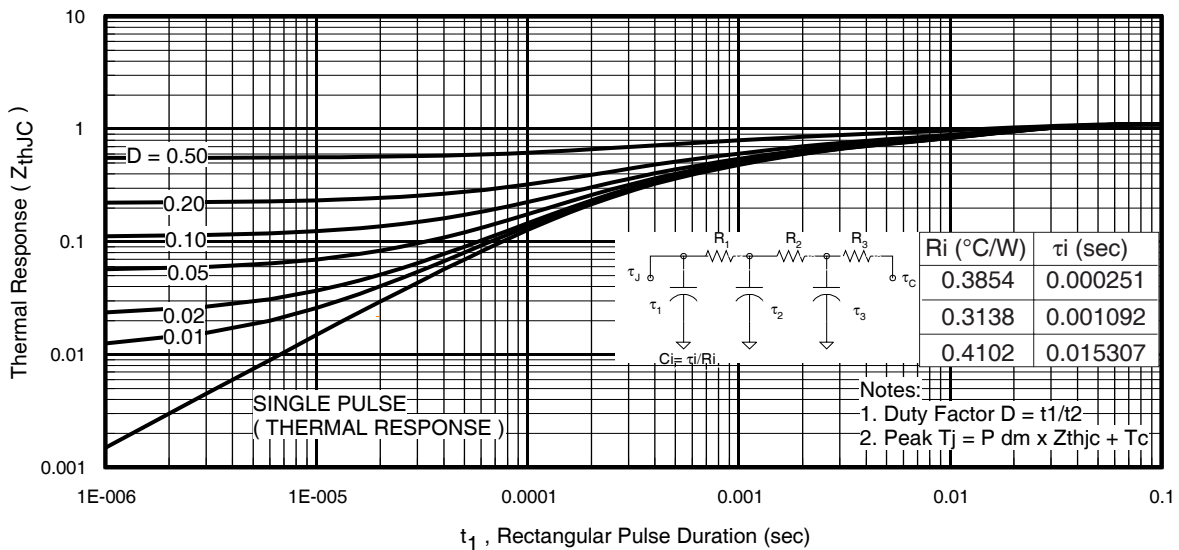

Fig 11. Maximum Effective Transient Thermal Impedance, Junction-to-Case
$Z_{thJC}(D, t_{av})$ = Transient thermal resistance, see figure 11)
- ① Repetitive rating; pulse width limited by max. junction temperature. (See fig. 11).
- ② Limited by T_{Jmax} , starting $T_J = 25^\circ\text{C}$, $L = 0.13\text{mH}$